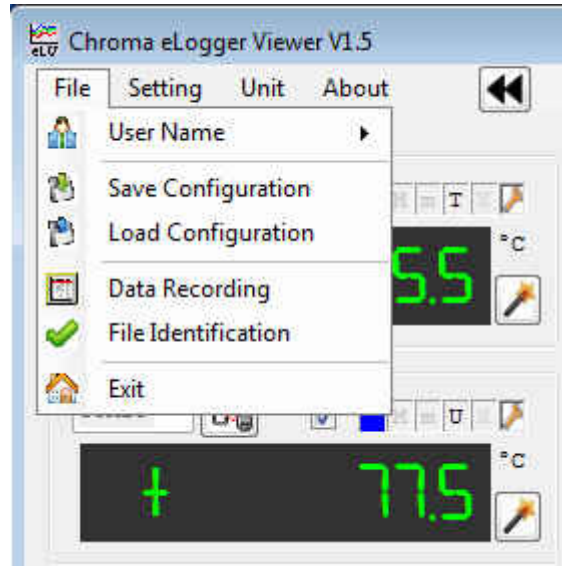

Figure 2-10 File selection detail
**File** selection is located at the upper left corner of main screen which includes User Name, Save Configuration, Load Configuration, Data Recording and File Identification as Figure 2-10 shown.